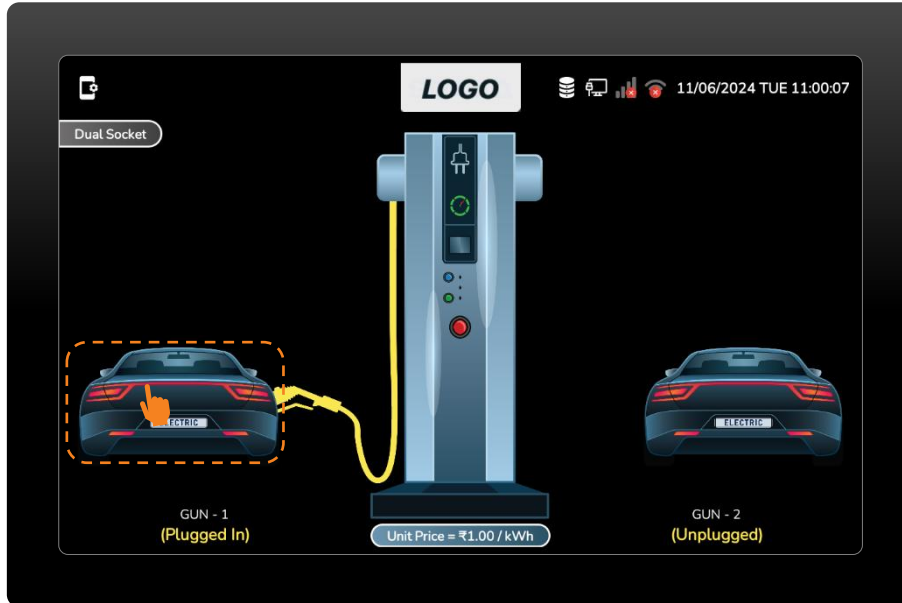

Figure 55 Press the GUN-1 Vehicle Icon.
- Pressing the GUN-1 vehicle symbol initiates the charging procedure under session mode. (Figure 55)